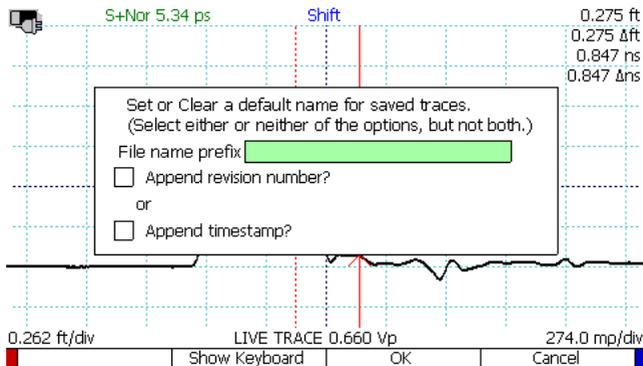

Figure 4.31. The save trace default dialog box.
3. A dialog box appears. See Figure 4.31. Press the *Show Keyboard* menu option to display the on-screen keyboard, or use a USB keyboard.